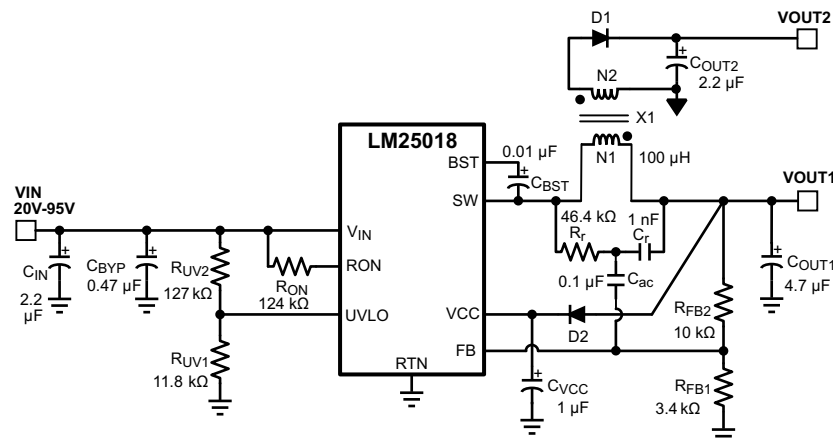

图 8-5. Typical Isolated Application Schematic
An isolated supply using LM25018 is shown in 图 8-5. Inductor (L) in a typical buck circuit is replaced with a coupled inductor (X1). A diode (D1) is used to rectify the voltage on a secondary output. The nominal voltage at the secondary output (V_{OUT2}) is given by 方程式 20.